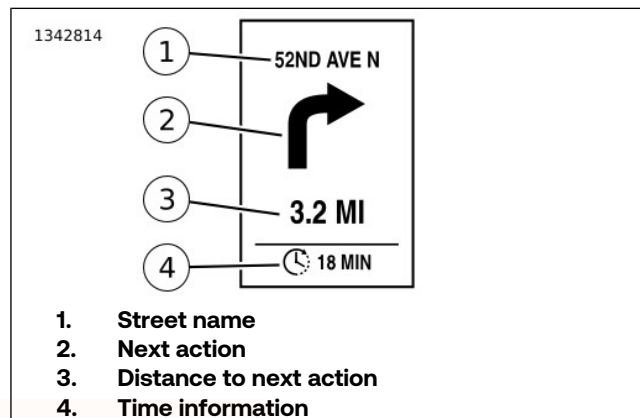

Figure 44. Navigation Widget
See Figure 44. The navigation widget displays turn by turn navigation information that has been entered into the connected device using the LiveWire App. This information includes street name (1), Next action icon (2), distance to next action (3) and time information (4) (either arrival time or trip duration).